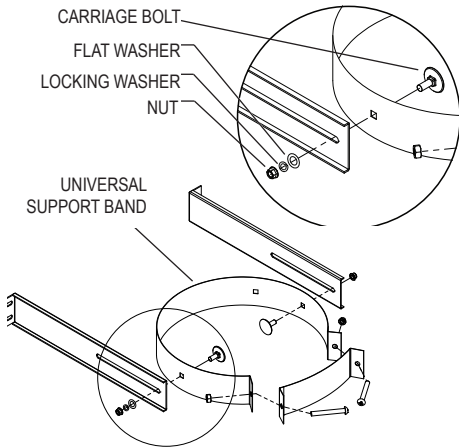

Figure 5
For Universal components, use the carriage bolt through the band and through the leg. Use (1) flat washer, (1) locking washer, and (1) nut per side to secure to carriage bolt (Fig.5). Ensure carriage bolts are directly across from each other.